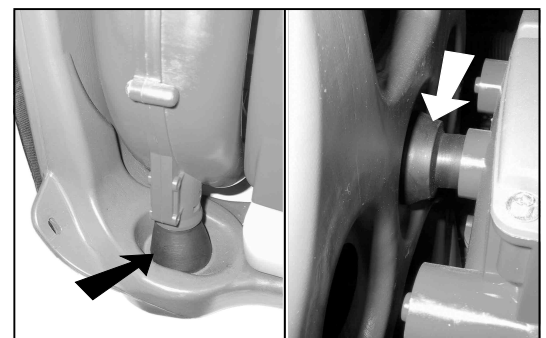

fig.9
- **Vibration**: the ergonomic design of the shoulder straps and backpack frame combined with an innovative antivibration system make for a substantial reduction in the level of vibration transmitted to the operator (fig.9).